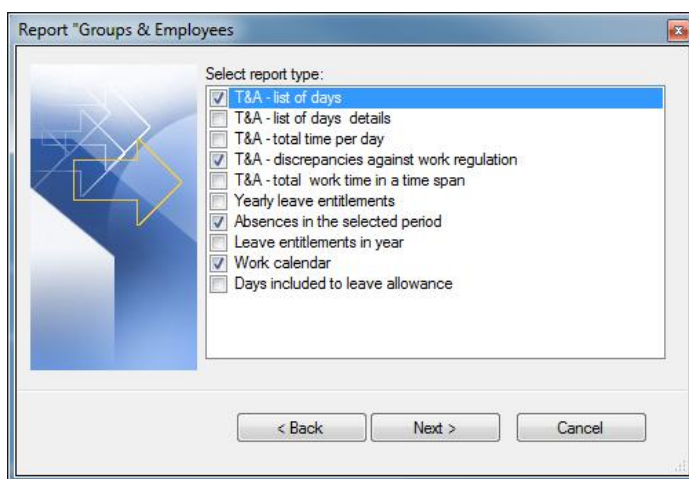

Figure 48. Select report types to generate.
Step 1. Select report types to generate. In the example below (see Figure 48), the generic report on work time, the report on discrepancies to work regulations (late arrivals, exceeded break limits — e.g. cigarette breaks, and so on), the leave entitlements report (the current state of the leave usage) and the work calendar report, have been selected.